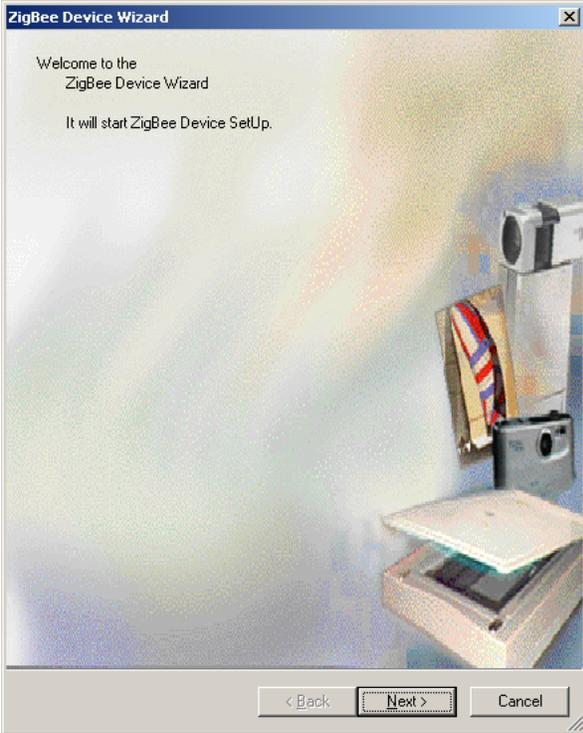

Figure 15 – Screen, ZigBee Device Wizard (Opening)
- 2) When the screen in Figure 15 is displayed; click ‘Next’.